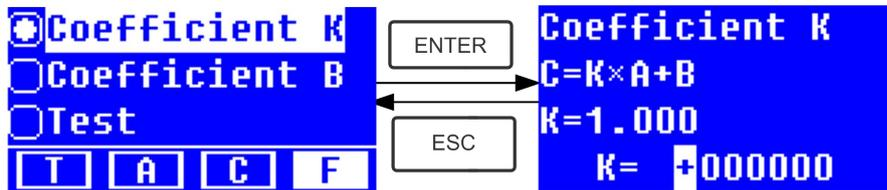

Fig. 4-18
- ★ Use Arrow Key to move the cursor on "Coefficient K" and press  to go into K setting interface. ( Fig. 4-18); Input every bit of K by Arrow Key and press  to confirm. When the last bit finished, system will return the former Interface automatically.